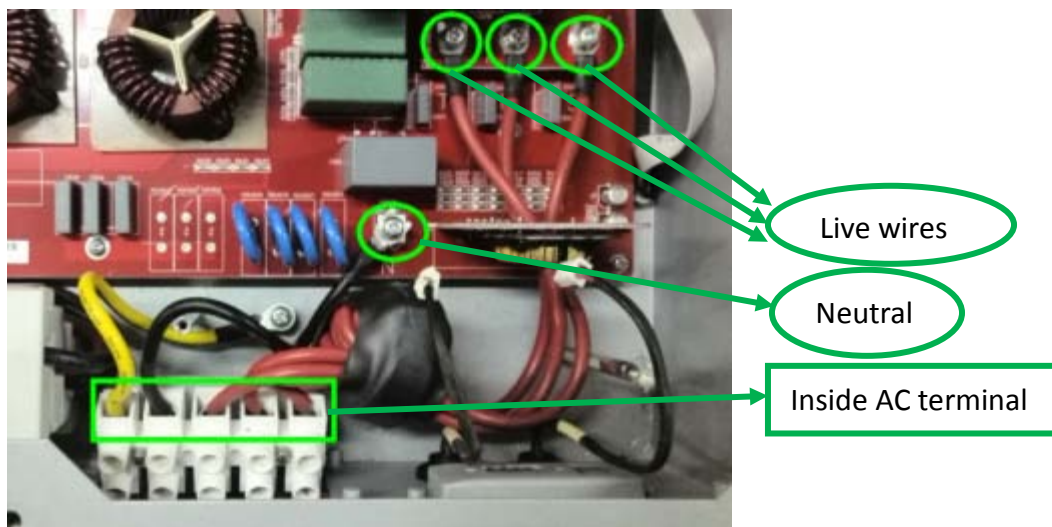
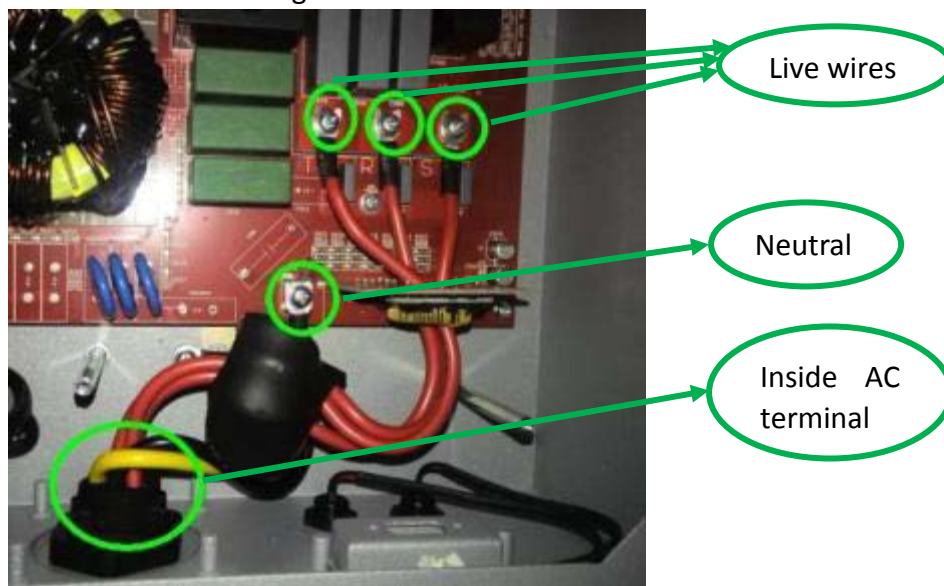

Fig.4.5.2
Fig.4.5.3
- 5) Make sure all the points as Fig.4.5.2 or Fig.4.5.3 marked are tightened.